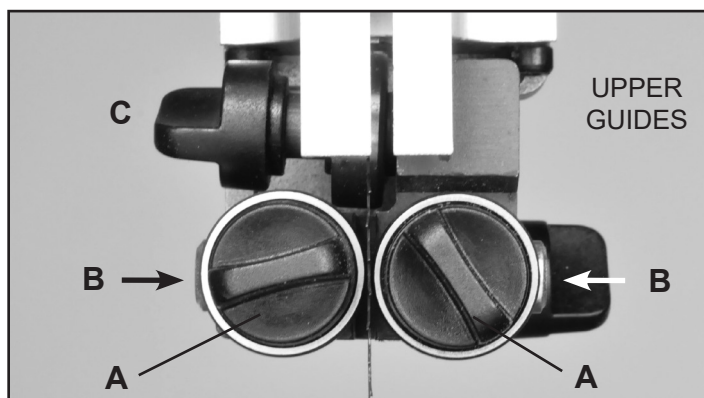
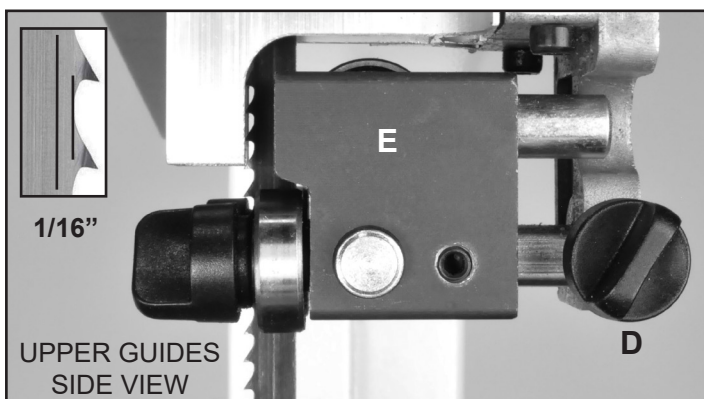

FIGURE 22
FIGURE 23
1. Position the right and left roller guides about 1/32" to the blade sides. First, loosen their front Lock Handles (#49, FIG. 22, A) by twisting them counterclockwise. The Guide Shafts (#154) that hold the guide bearings are spring loaded! To move the guides towards the blade, simply push the ends of the guide shafts (B), or use the front lock handles to pull the guides towards the blade. Lock the guides in place by turning them clockwise. FIG. 22.
2. The guides should be approximately 1/16" behind the gullets of the saw blade. If they need to be moved, loosen the back Clamp Handle (#49, FIG. 22 & 23, D) and move the Upper Guide Block (#153, E) that holds the guides so that the guides are properly positioned behind the blade gullets. Re-tighten the handle when done. FIG. 23.